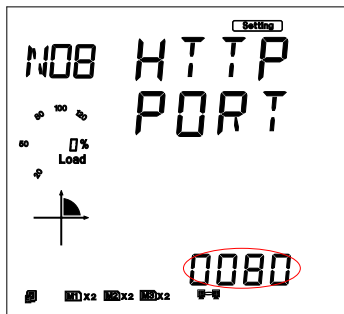

Fig 5-36
10. Set HTTP port in the eighth setting page, such as 80. Press the "V/A" key to go to the setting page. Users may set the parameters pointed out in Fig 5-36. The cursor starts at the first digit. After setting the HTTP port, press the "V/A" key to accept. Press the "P" key to go to the ninth setting page for the reset mode. The HTTP port's default value is 80, and the user defined range of port is 6000~9999. If the set port is not in the correct range, the set port will return to the default value.